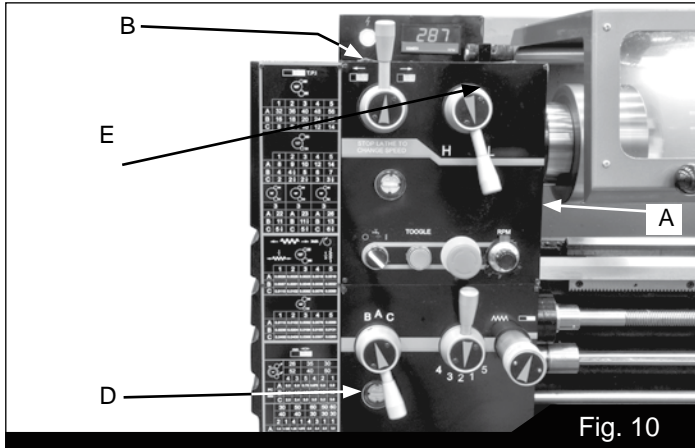
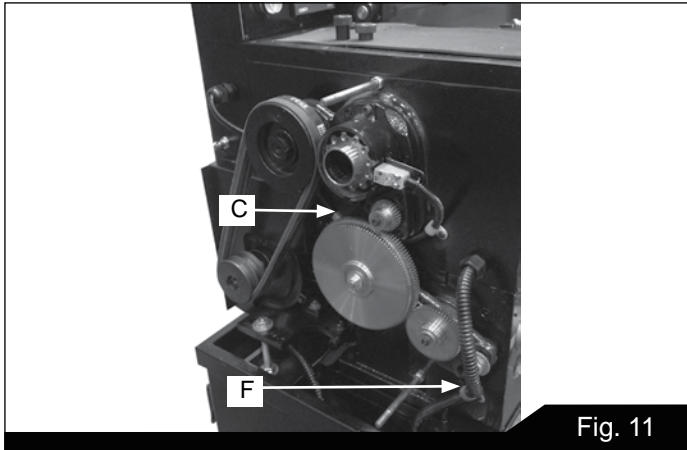

Fig. 10
Fig. 11
2. Headstock – Oil must be up to indicator mark in oil sight glass on right side of headstock (A, Figure 10). Top off with SAE 20W oil. Fill by removing the rubber mat and unscrewing the plug (B) on top of headstock. To drain headstock, remove drain plug (C, Figure 11).
3. Gearbox – Oil must be up to indicator mark in oil sight glass (D, Figure 10). Top off with SAE 20W oil. To add oil to the gearbox, remove rubber mat and unscrew oil plug (E, Figure 10). To drain, remove drain plug from the pipe (F, Figure 11). Drain oil completely and refill after the first three months of operation. Then change oil in the gearbox every six months.